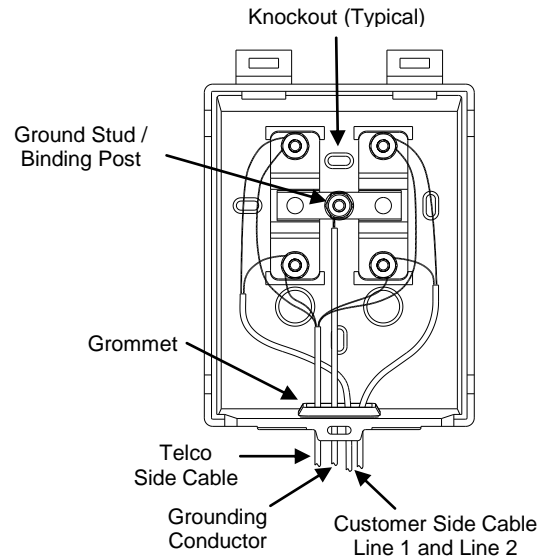

Figure 1
1.1 The TII 347 Series Station Protectors consist of one or two Protector Modules in a top hinged enclosure with integral ground stud (See Figure 1).
1.3 The plastic base is molded with knock out holes for mounting. A captive nylon insulated nut may be provided to give a degree of tamper proofing, and for easy installation and removal as an option (See Figure 1).
1.4 A flexible grommet is located in the center of the base to provide a seal for Telco cable, customer cable and grounding conductor wiring. (See Figure 1.)
4.1.1 Insert the grounding conductor, the customer side cable and the Telco side cable through the grommet in the base of the protector (See Figure 1).
4.1.2 Terminate one end of the grounding conductor (No. 6 AWG) on the ground stud / binding post and the other end to an appropriate ground source. (See Figure 1.)